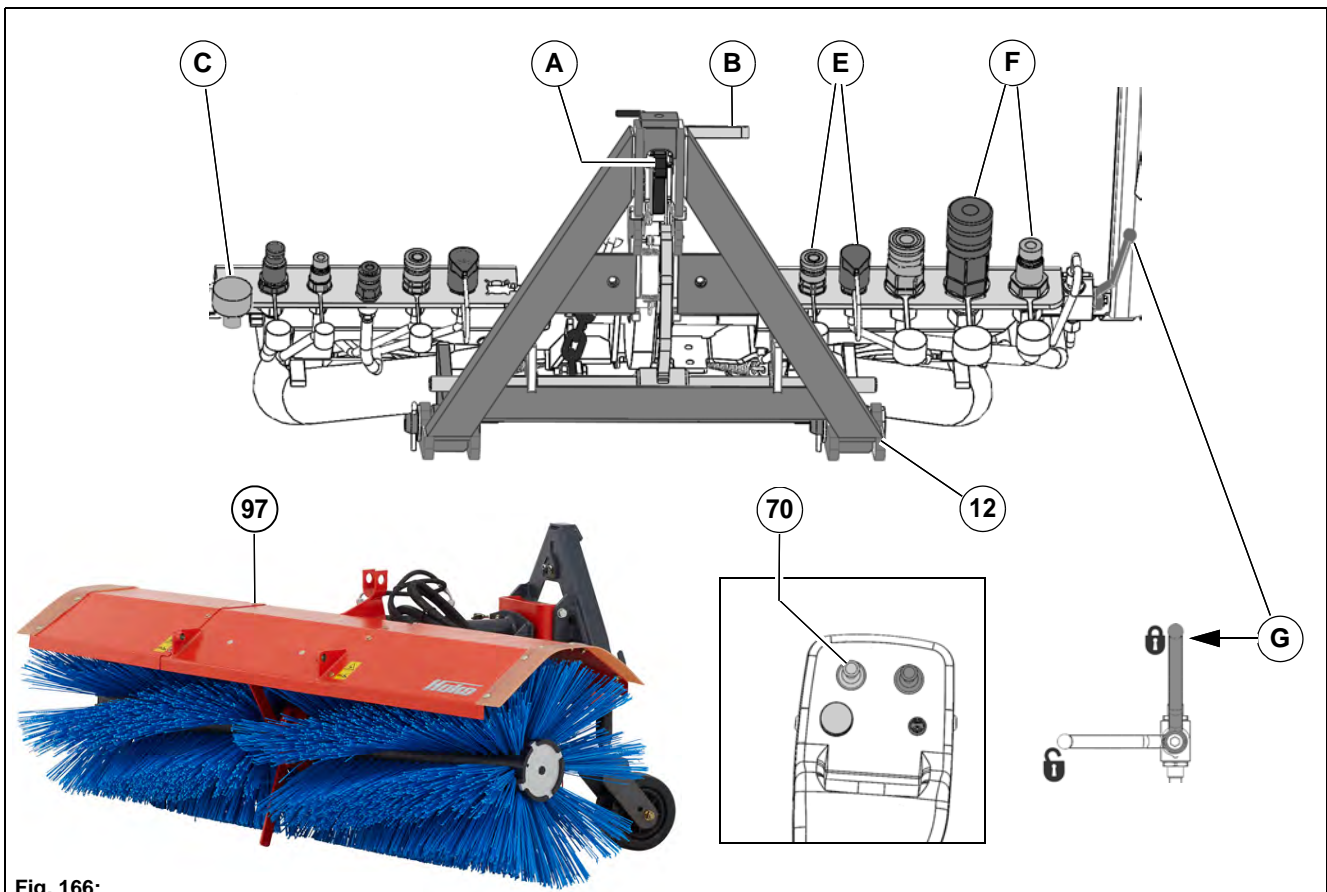

Fig. 166:
- 2 Unlock the locking hook **Fig. 166-A** and locking rod **Fig. 166-B** on the coupling triangle.
- 6 Close the valve **Fig. 166-G** for raising the suction mouth in the raised position!
- Left actuator – Supply/return = **Fig. 166-E** (optional side adjustment)
- 19-pin coding plug = **Fig. 166-C**
- Front sweeping machine hydraulic motors – Supply/return = **Fig. 166-F**